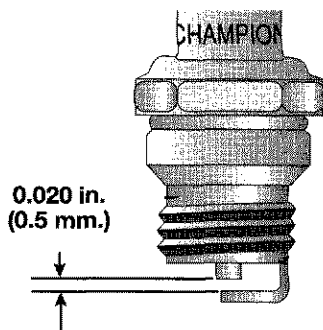

Fig. 35
3. Replace cracked, fouled or dirty spark plug. Set the air gap at **0.020 in. (0.5 mm.)** using a feeler gauge (Fig. 35).